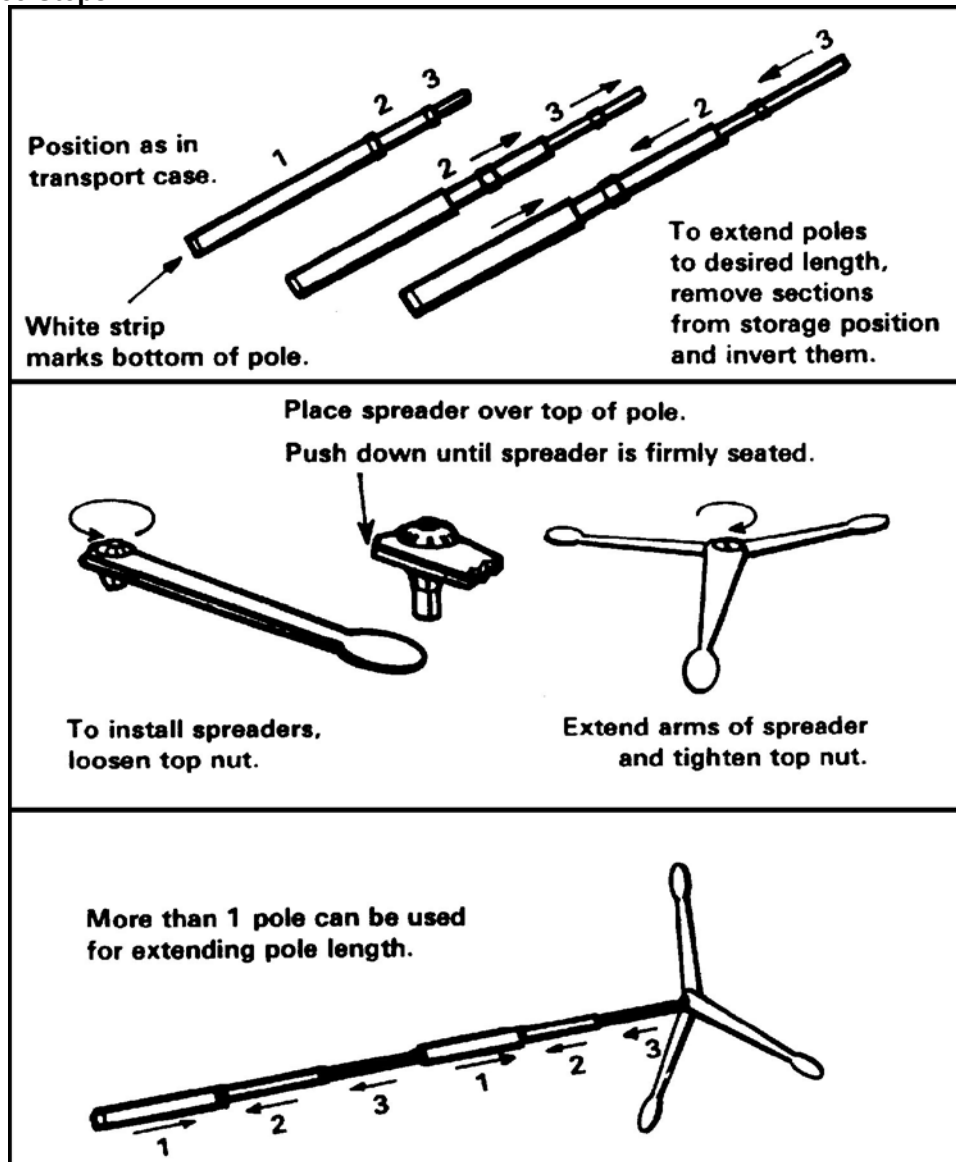

Figure 2. Net poles and spreaders.
- (2) To raise the LSS nets, the crew must use poles (Figure 2) or small trees with small branches at the top.